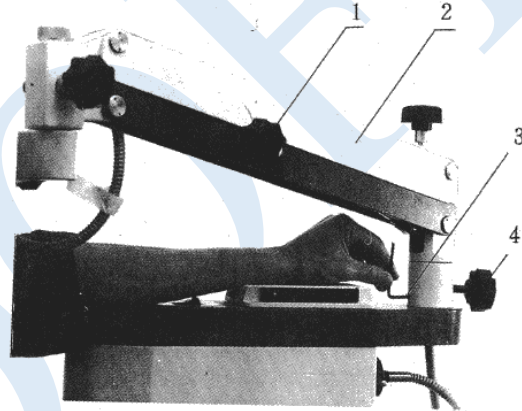

Fig3
- (2) Assemble the support at one shrinking side of the table. Press the steps of gripping holder close to the side of the table before gripping. Switch on the lead screw to press the spacer on the metal plate under the table. Lift up the lever at the angle of 90° for gripping.
- (3) Loosen the fixation screw (Fig.3-4). Turn the small arm (Fig.3-2) at an angle. Fasten it with a hexagon lever (Fig.3-3) so that the small arm will not rotate at full angle of 360° (refer to Fig.3).
- (6) Release the knob (Fig.3). Hold the handle to move the microscope upward or downward to adjust the focus till the image is clear to a great degree. Fasten the knob (Fig.3-1). Adjust the fine adjustment knob (Fig. 12-2). Watch with one eye to make the image clear. Then adjust another eyepiece to be sure that the image getting with another eye is also clear .Then watch the image with two eyes simultaneously .Adjust the pupil distance knob (Fig.12-4) to be sure that the image both eyes get meet together and stereoscopic feeling can be got.